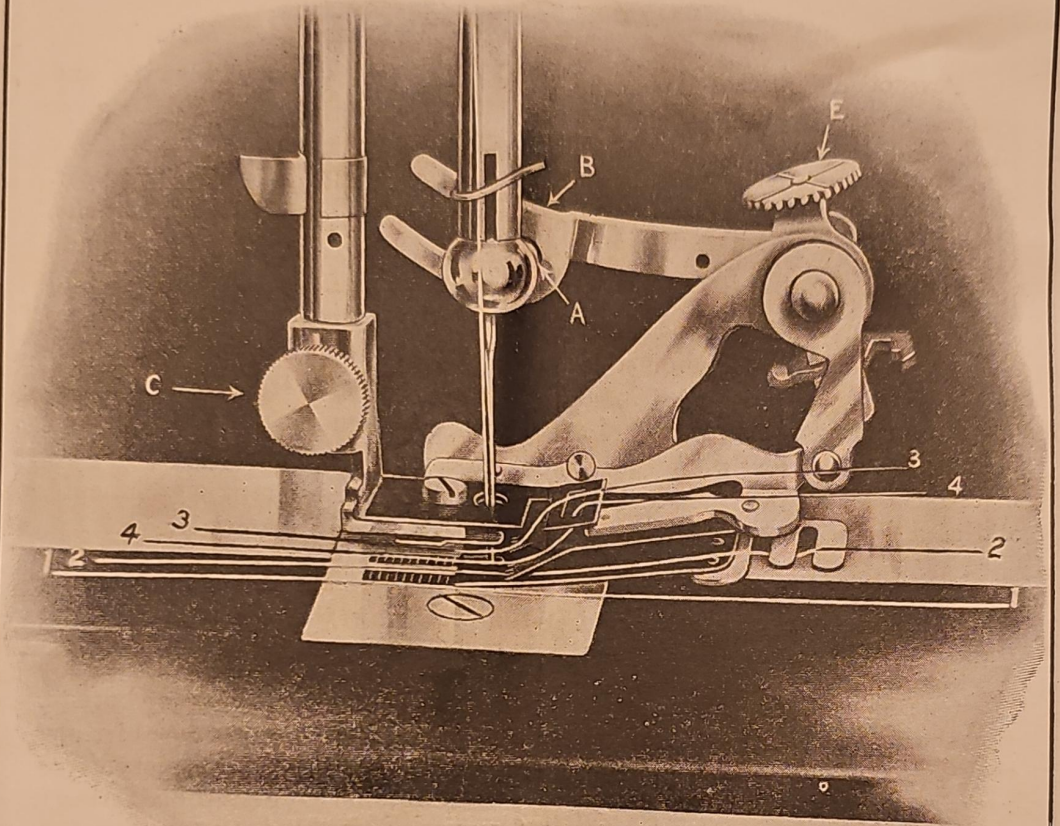

Figure 18.
Fold the piping (A) and insert into the pipe gauge (see Figure 18, page 19). Fold the heading (C) and insert into slot right in front of the piping gauge. Place the band (B) to be ruffled between the ruffling and shirring blades, lower the presser bar and commence to sew slowly.